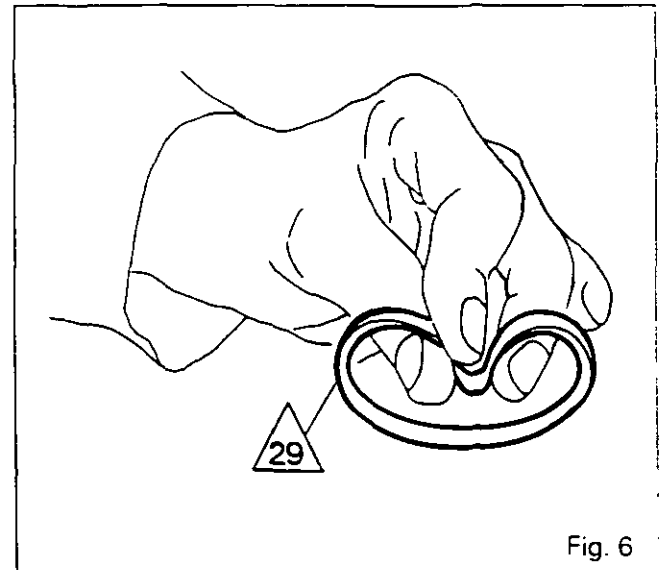

Fig. 6
8. Shape the sealing bushes /29\ as per Fig. 6.